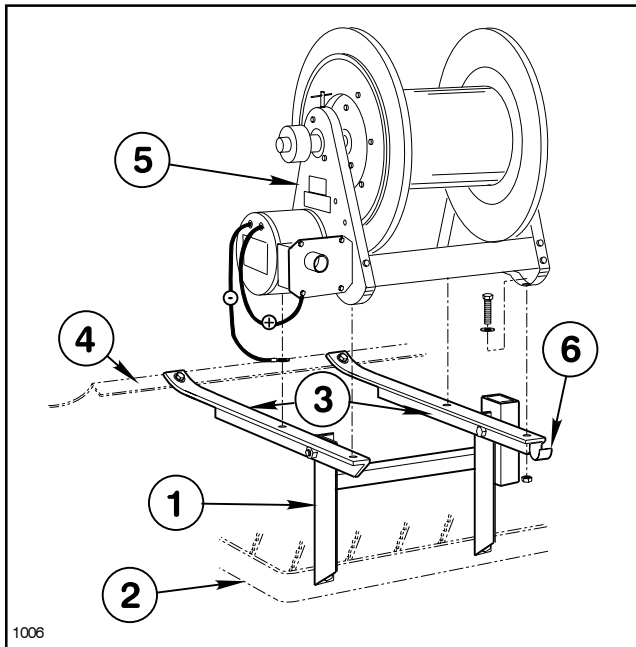

FIG. 2
1. Install the Mounting Legs Assembly onto the Hydraulic Reservoir Mount using two (2) 3/8" cap screws, hex nuts and flat washers. (Refer to Fig. 2 on page 2) Tighten the fasteners to "just snug" to permit any necessary adjustments.
2. Install the two (2) Mounting Arms to the Spray Tank Saddle and the Mounting Legs Assembly using four (4) 3/8" cap screws, hex nuts, and flat washers. Tighten all six (6) 3/8" cap screws at this time.
3. Install the Hose Reel Assembly onto the two (2) Mounting Arms, using the four 3/8 x 1" cap screws, flat washers and lock nuts. Attach the Hose Clip under the right Mounting Arm before tightening the Bolts. See FIG. 2.
6. Attach the Electrical Box assembly to the left side of the Hose Reel with two (2) 5/16" x 3/4" cap screws and lock nuts.